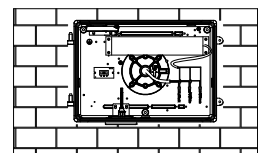

Figure 14
9. Pull the supply conductors through the 1/2" KO center hole on the back plate. (see Fig. 14)
12. Connect the Line, Neutral and Ground wires from the driver to the supply conductors. (see Fig. 14)